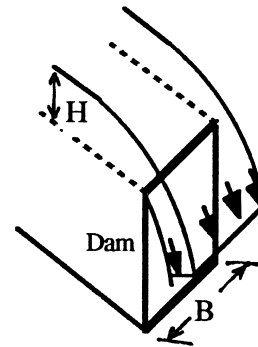

Fig. P1.14
**1.14** The volume flow  $Q$  over a dam is proportional to dam width  $B$  and also varies with gravity  $g$  and excess water height  $H$  upstream, as shown in Fig. P1.14. What is the only possible dimensionally homogeneous relation for this flow rate?
**1.15** As a practical application of Fig. P1.14, often termed a sharp-crested weir, civil engineers use the following formula for flow rate:  $Q \approx 3.3 BH^{3/2}$ , with  $Q$  in  $\text{ft}^3/\text{s}$  and  $B$  and  $H$  in feet. Is this formula dimensionally homogeneous? If not, try to explain the difficulty and how it might be converted to a more homogeneous form.